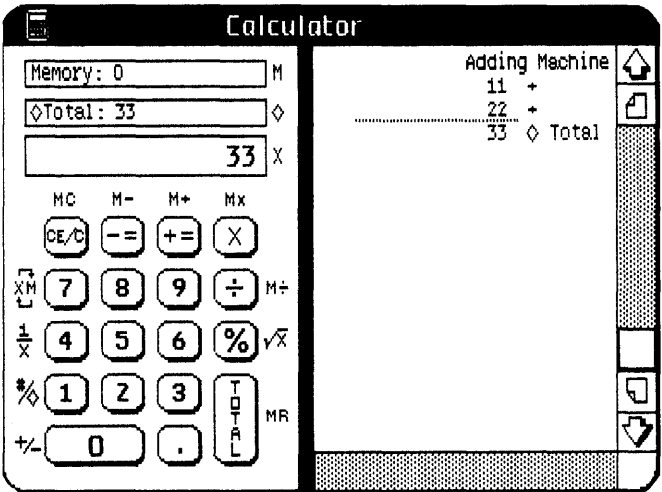

Figure 7. Adding Machine, Example 1
- 5 ► Click #/◇; see Figure 7 now.
In Figure 7, the subtotal 33 has been stored in the calculation register (labeled $\diamond$), displayed in the X register, and shown on the transaction tape. The dotted underscore indicates that a subtotal was taken; the actual value of the subtotal is labeled $\diamond$ Total.